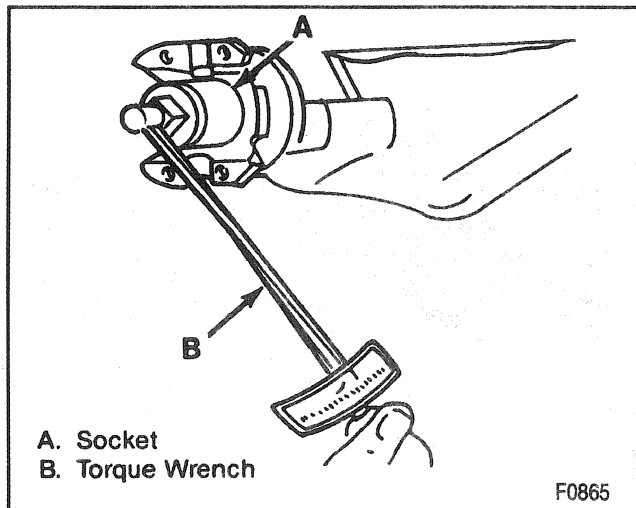

Figure 15—Measuring Pinion Rotating Torque
Remove or Disconnect (Figures 15 through 20)
- C. Measure, using an inch-pound torque wrench, the amount of torque required to turn the pinion. Record this measurement for reassembly (Figure 15). This will give combined pinion bearing, seal, carrier bearing, axle bearing and seal preload.